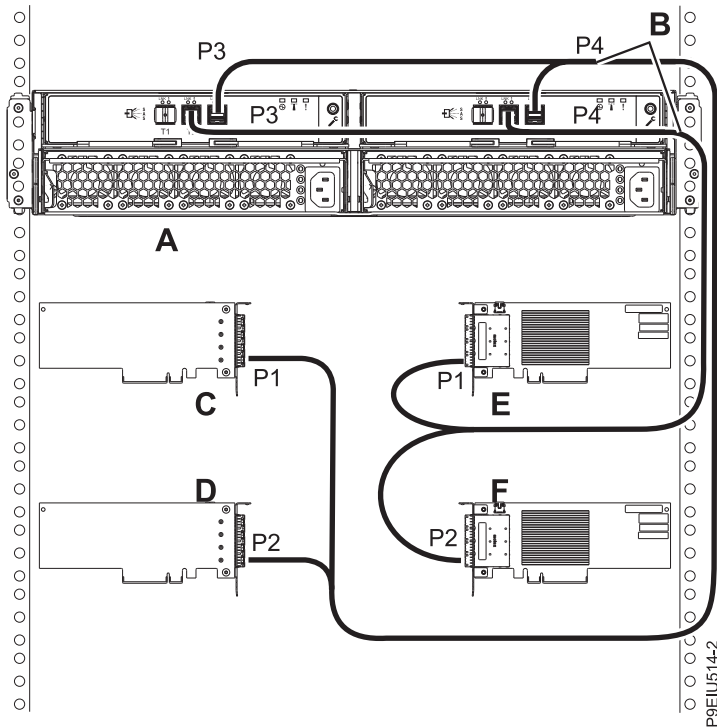

Figure 19. Mode 4 connection of one ESLL or ESLS storage enclosure by using X12 cables to four independent FC EJ0J or FC EJ0M SAS adapters
19. Complete a mode 4 connection of one enclosure (A) by using X12 cables (B) to four independent FC EJ0J or FC EJ0M SAS adapters as shown in Figure 19 on page 19. Then, continue with “Connecting cables, power cords, and installing covers” on page 20.